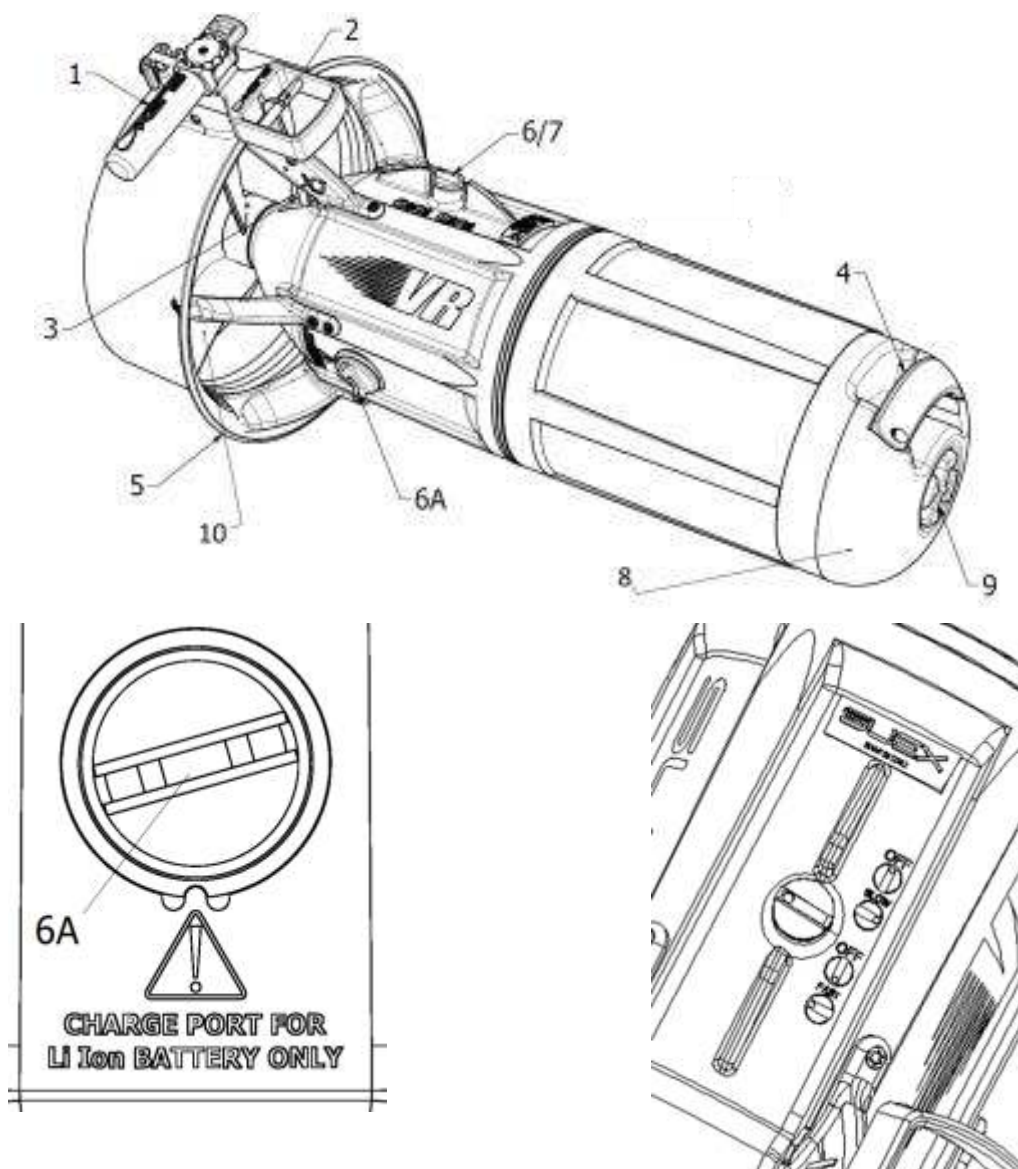

Fig.1
The underwater SCOOTER (VR- X 71419 and VR- T 71420) consists of a perfectly hermetic hollow body, with a hydrodynamic shape, (fig. 1), inside which the electric motor, the rechargeable batteries and the speed reducer necessary to move a propeller that provides a propulsive thrust.
On the front there is a handle (4 - Fig.1) which is used for gripping and lifting the SCOOTER and the nosecone (8) whose opening gives access to the battery compartment. The opening of the nosecone is possible by turning the closing handwheel (9) counterclockwise.
- Turn the main switch to ON position (6 - Fig.1);
- Hold the SCOOTER (by the handle (1));
- Press the trigger (2), the SCOOTER starts to move;
Turn the front fastening knob (9) counter-clockwise. When rotating the knob the nosecone (8) (see fig. 1) starts to lift. Continue rotating the knob until the nosecone detaches from the body.